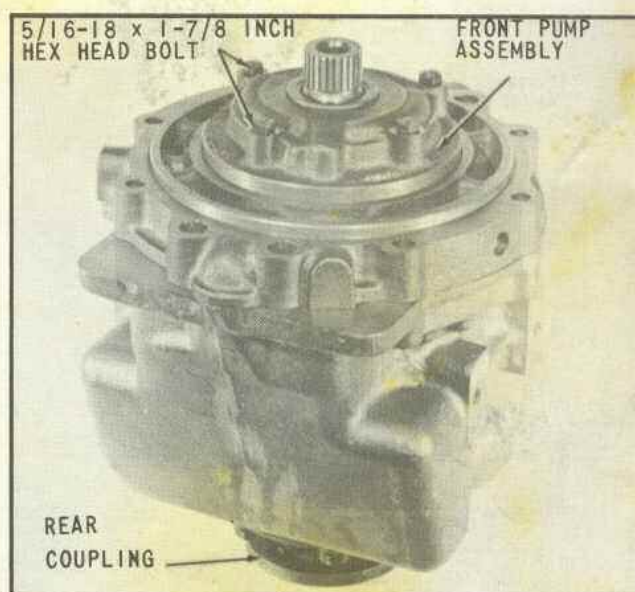

Fig. 100 Bolting Front Pump Assembly
15. With front pump assembly resting squarely on gasket and seal assembly tool removed, install four (4) 1-7/8 long hex head bolts, (Fig. 100). Tighten hex head bolts evenly to torque of 17 to 22 pounds-feet.